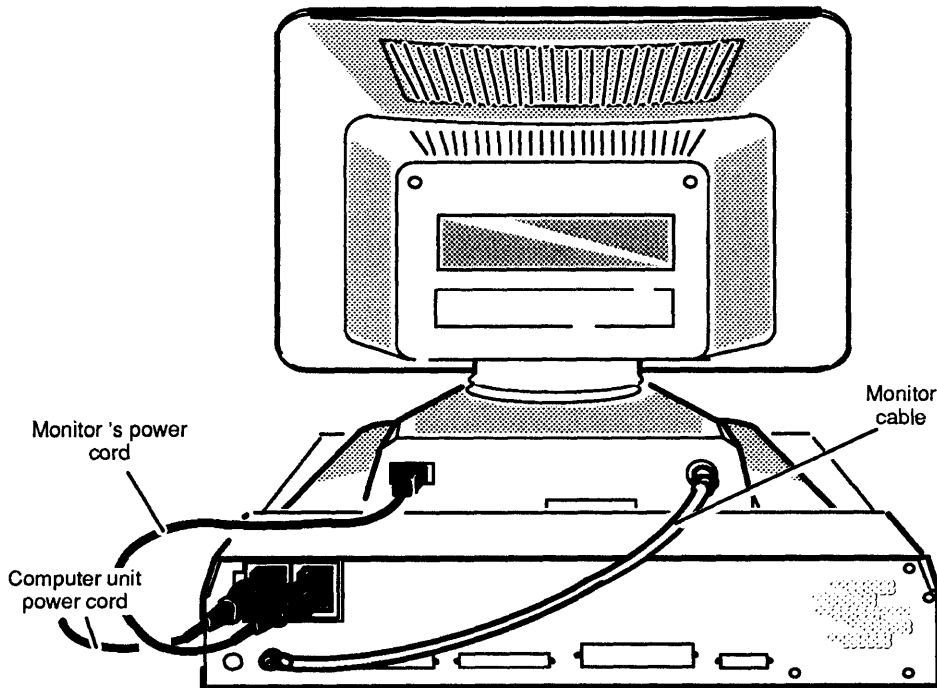

Figure 4–2 Location of the Monitor and Computer Unit Power Cords and the Monitor Cable
3. Disconnect the computer unit’s power cord from the ac power outlet and then from the back of the computer unit. The location of the computer unit’s power cord is shown in Figure 4–2.